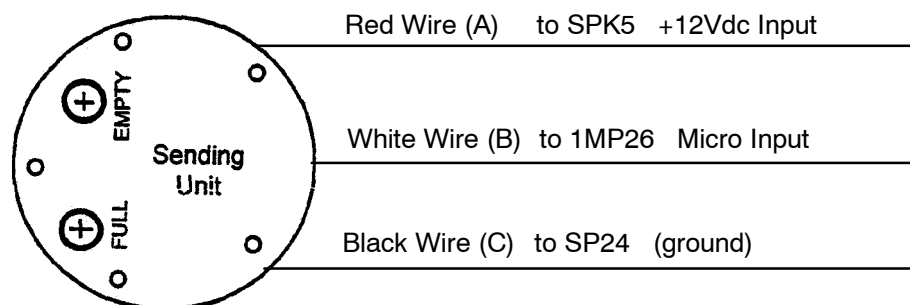

Figure 8-3. Fuel Sensor Wiring
- Verify that the wiring is correct. See Figure 8-3 for correct wiring.